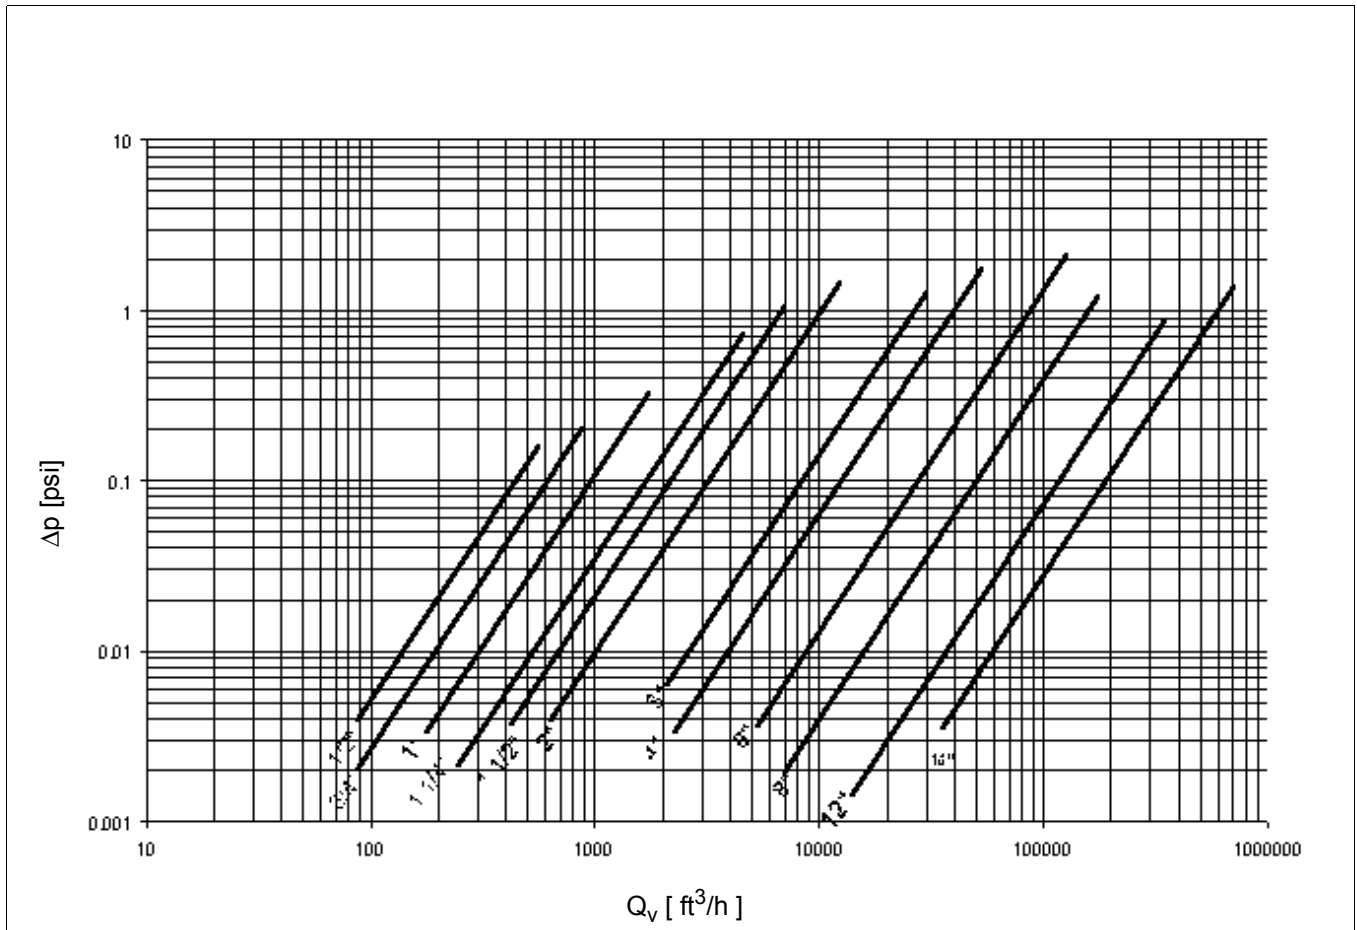

FIGURE 2-10 PRESSURE DROP, AIR (@70° F, 14.7 PSI, P=0.075 LB/FT³)
3. Using Figure 2-10, find the pressure drop at $Q_v = 6425 \text{ ft}^3/\text{h}$ and $\rho = 0.67 \text{ lb/ft}^3$:
Refer to Figure 2-10 for air (@70° F, 14.7 psi, $\rho=0.075 \text{ lb/ft}^3$). For other fluid densities the pressure drop can be calculated using the following equation:
Δp = Air pressure drop (from Figure 2-10) [psi]